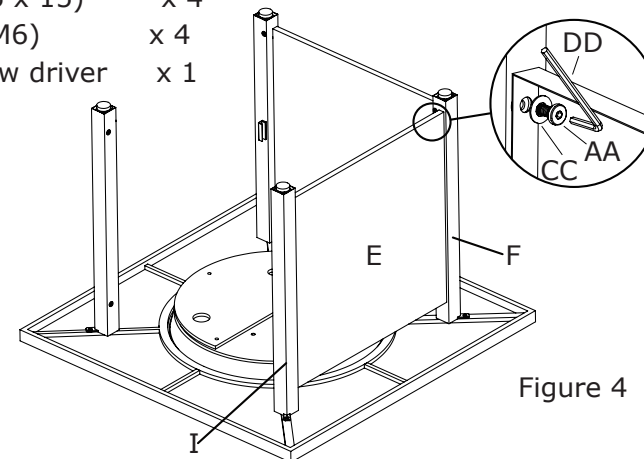

Figure 4
4. Attach right panel (E) to front-right leg (F) and back-right leg (I) with bolts (AA) and washer (CC) using hex screw driver (DD), (see Figure 4).